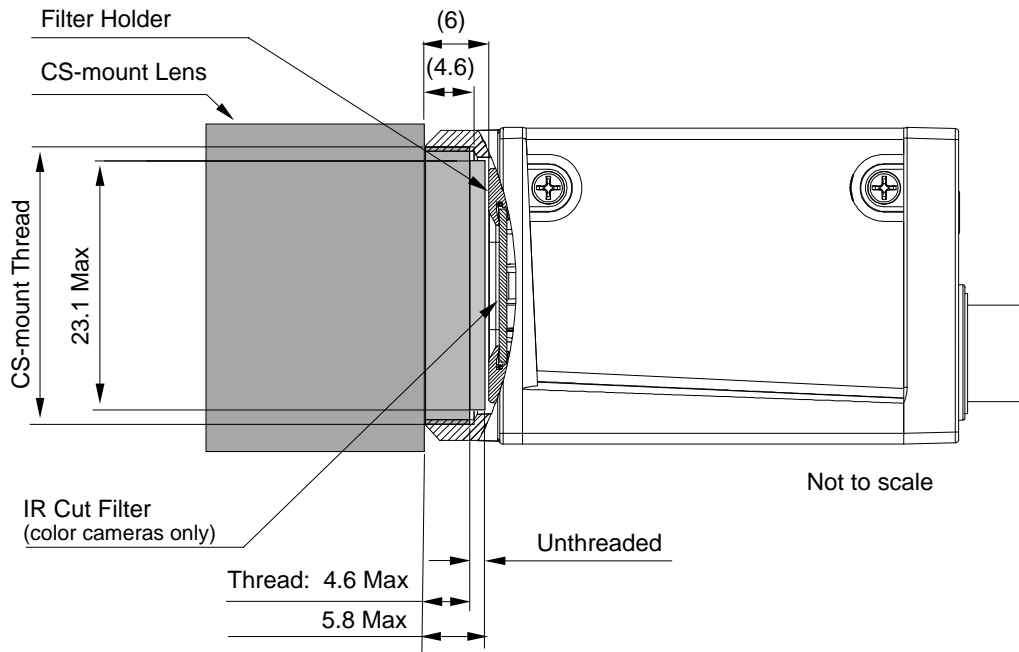

Fig. 37: Maximum Lens Thread Length (Dimensions in mm) for Cameras with the CS-mount Lens Adapter
- Camera with CS-mount lens adapter (see Figure 37):